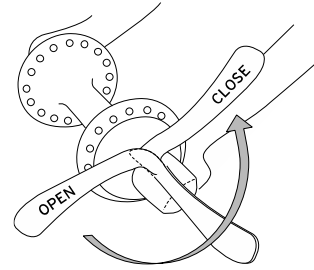

Figure 10. Lever movement
6. Lock the quick-release; with the lever in the palm of your hand, move the lever as shown in Figure 10 to the CLOSE position.